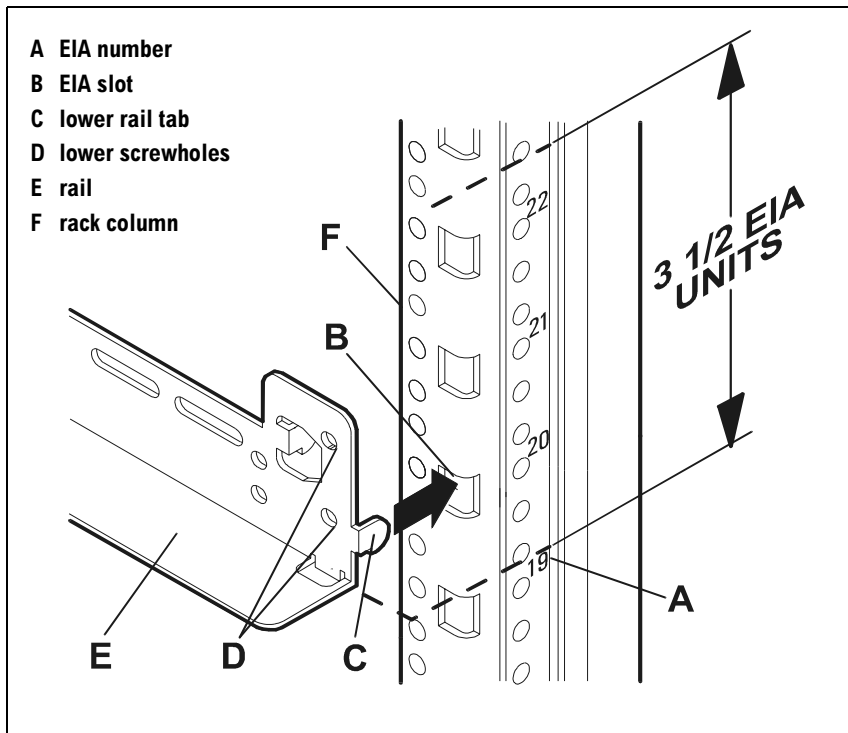

Figure 18 EIA Unit Rail Position
- To set rails at the EIA Unit number, insert the lower rail tabs (C in Figure 18) in the bottom EIA slot (B).